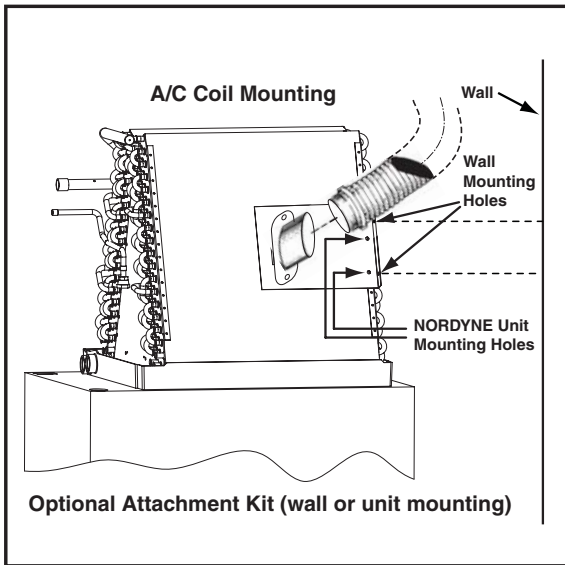

Figure 2. Downflow Electric Furnace with A/C
Electric Furnace with Nordyne A/C coil (see Figure 2) - Align and fasten the Ventilare Attachment bracket with the holes of the Nordyne coil end-plate flange.
*Electric Furnace with non-Nordyne A/C coil (see Figure 2) - When using other brands of coils, the installer has the option to attach the bracket to the wall of the furnace cavity. Fastening **must** penetrate into a framing member or sheetrock anchors.*